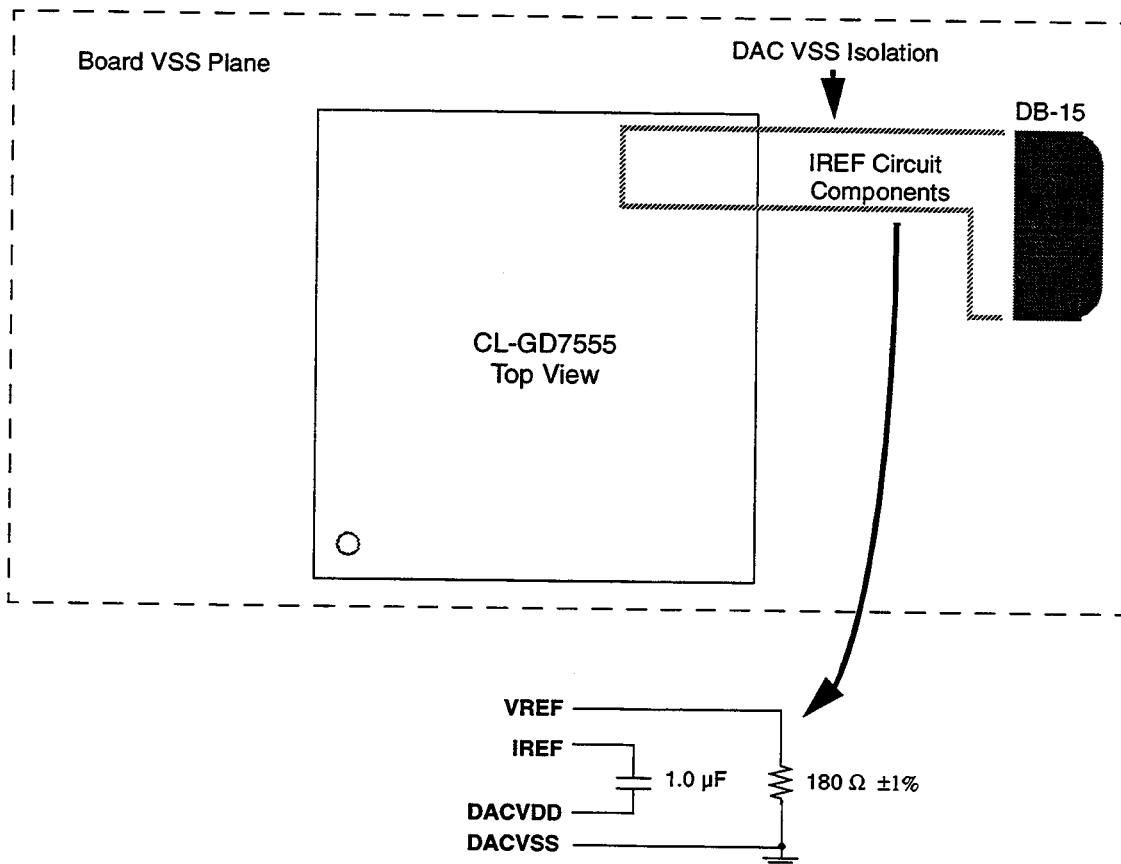

Figure 2. Example: Isolating the Ground Plane
When laying out a board that uses the CL-GD7555, one plane on the board must be dedicated to ground. The ground plane must have cuts that suppress currents between the various areas but do not completely isolate the currents. For a typical design, refer to Figure 2 and the schematics in the CL-GD7555 Demonstration Board application notes. Make cuts in the ground plane, using the following guideline:
- As shown in Figure 2, IREF circuit components must be returned to the DAC / IREF section of the ground plane.